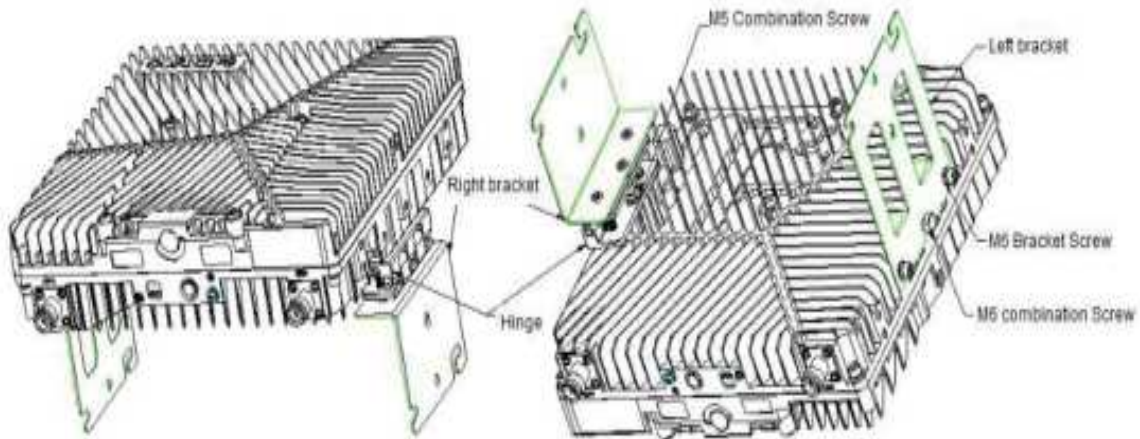

Figure 42. Installation of the Left and Right Brackets and Device Bracket
- 2) Assembly of left bracket, right bracket, and equipment, as shown in Figure 42.